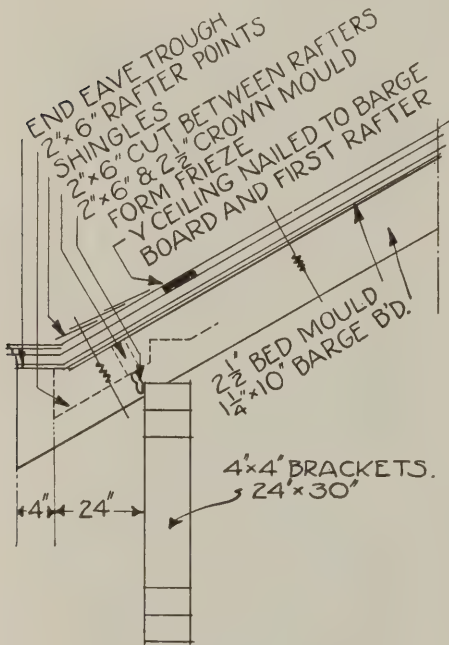

Fig. 1
J. J. L., Halbrite, Sask., Canada, writes: "I am enclosing a sketch of a method I use for a bungalow roof which may interest someone. See Fig. 1. I cut my barge boards or end fascia of my rafters pattern and add $\frac{3}{8}$ in. (or one-half the width of the ridge) to the top end. Add 4 in. to the bottom end, if a 4-in. eave trough is to be used,